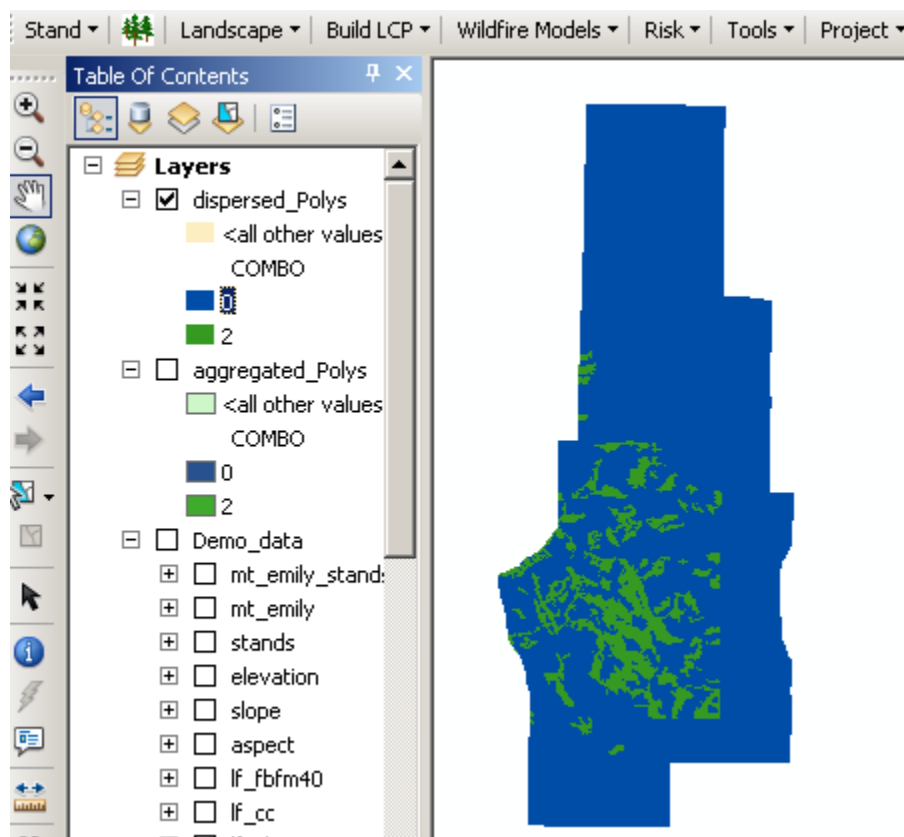

Figure 5-20—Treatment solution where green areas indicate a need for treatment.
- 3) Map the solution (fig. 5-20). Note that this time the solutions possible are 0 and 2. Where 0 denotes not in the patch and do not treat and 2 indicates *InPatch* and *DoTreat*. Because the *Aggregate* box was unchecked, there will only be these two options no matter how complex the run, because the process is not trying to create a contiguous patch; rather, it disperses treatments across the landscape.